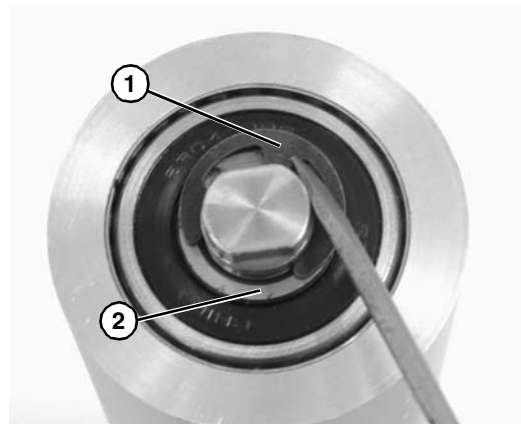

Figure 77
5. Remove the pulley shaft assembly: remove the clip ring (**Figure 77, item 1**) and washer (**Figure 77, item 2**) from one side of the pulley assembly.